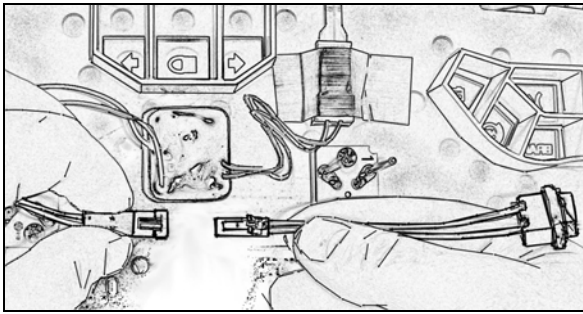

Figure 8
- A. Remove the Lamp Socket Connector pigtail from the Lighting Power Connector by releasing the latch (See figure 8).